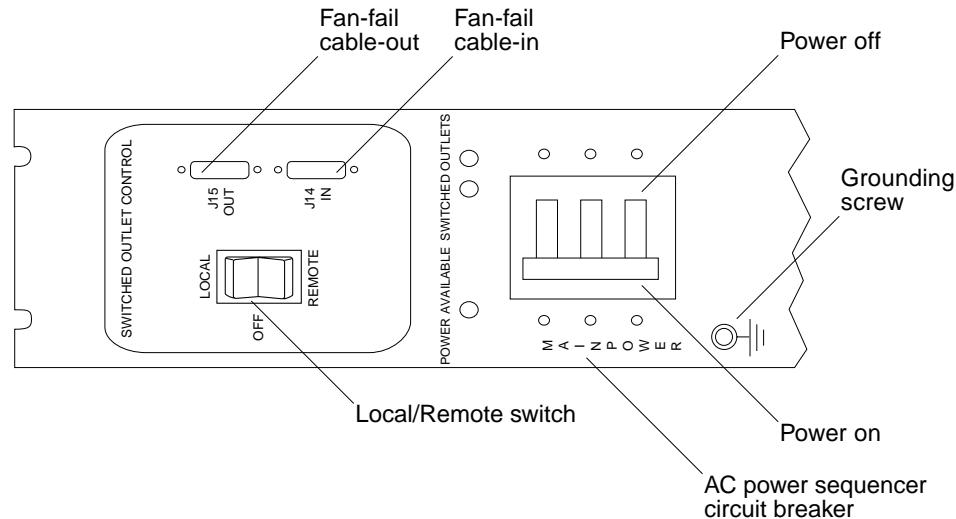

FIGURE 4-2 Power Sequencer Control Panel
- 1. Verify that each AC power sequencer circuit breaker is in the Off position and that the Local/Remote switch is in the Local position (FIGURE 4-2).**